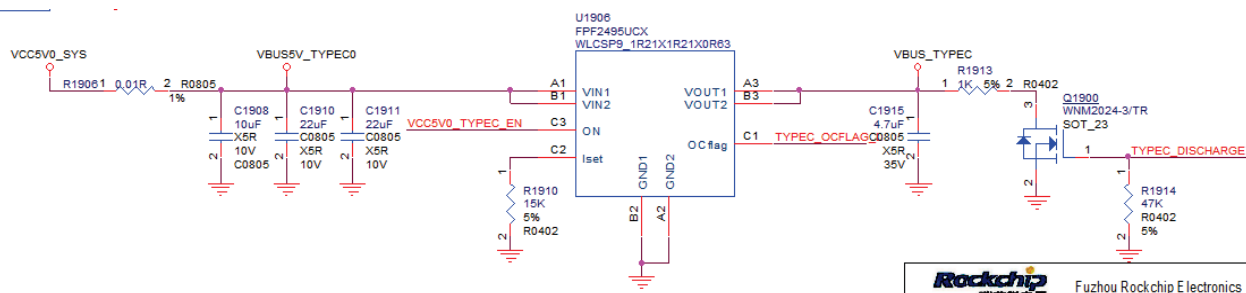

Figure 3-59 USB Type-C Interface Discharge Circuit
- If use PD function, it needs to add discharge circuit in power input port to prevent the device from damaged by over-voltage caused by replacing the device.shown as Figure 3-59.